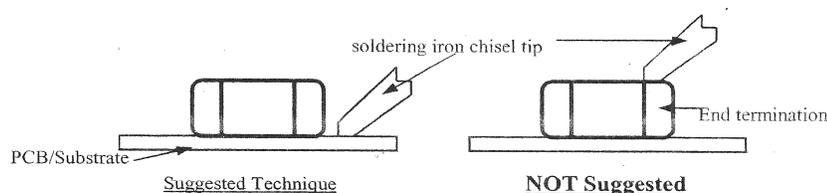

Figure 2
(F) Assuring the component is lying flat on the PCB/Substrate, place the soldering iron tip adjacent to the termination-land interface (See Figure 2). The soldering iron tip temperature should be controlled not to exceed 315°C. (600°F). When the solder starts to flow, slowly move the tip of the soldering iron towards the component. Add any additional solder needed to generate a solder fillet. As the solder re-flows onto the component termination, remove the soldering iron from the PCB/Substrate entirely.